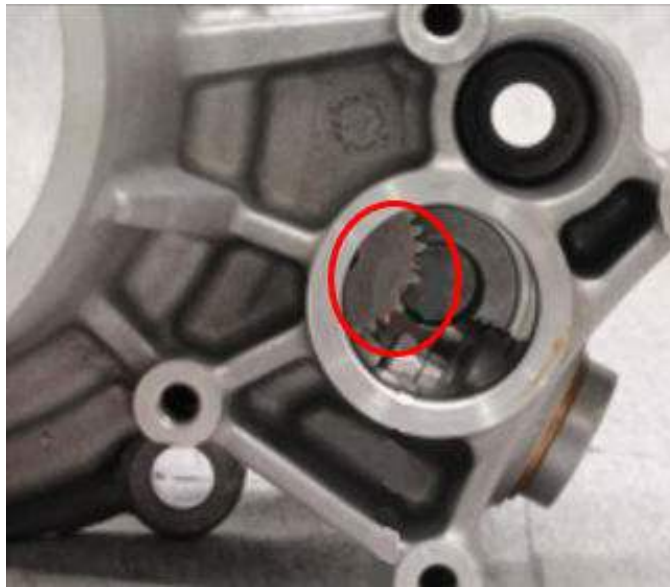

Fig. 2
12. Inspect if the intermediate gear has any broken teeth Fig. 2.